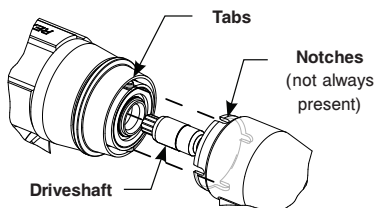

Figure 1 – To Install Attachment
2. To install an attachment, align the driveshaft of the attachment with the handpiece spindle. If the attachment has notches, also align the notches with the tabs in the sleeve of the handpiece (see figure 1).